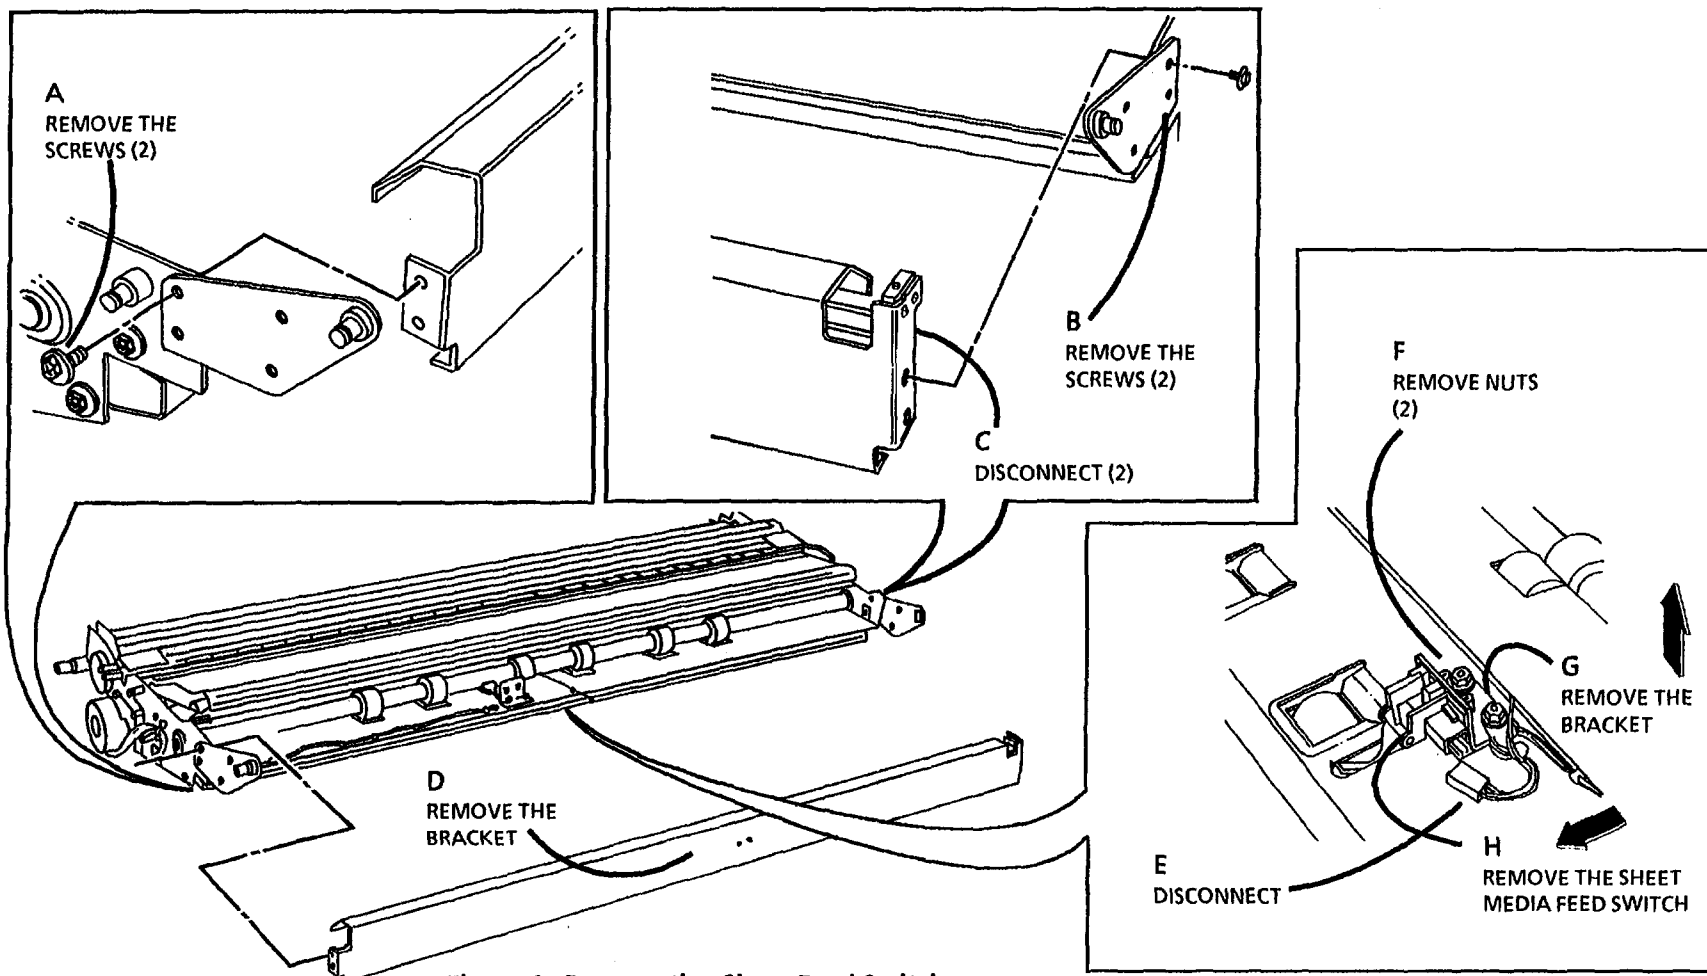

Figure 1. Remove the Sheet Feed Switch
4. (Figure 1): Remove the Sheet Feed Switch.